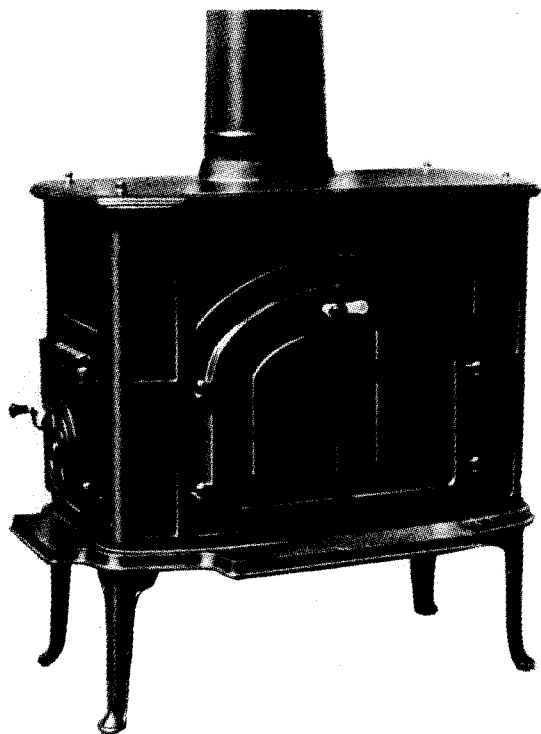

Fig. 51. Upland 207.
31. **Upland Stove Co., Inc.** (manufacturer), P.O. Box 87, Greene, NY 13778. In outward appearance (Fig. 51 and Table 5), this stove looks similar to the "Defiant" of Vermont Castings, Inc. The Upland 207, however, has adopted the Scandinavian-type horizontal baffle and heat-flow pattern. Upland's baffle may be adjusted by a tool to open in the center for a direct flame-path up the flue when burning in the fireplace mode. The doors are sealed with braided fire-proof gaskets. A spark screen is standard, and the 6-inch flue is convenient for those who only have a 6-inch chimney—most fireplace/stoves require a 7- or 8-inch chimney.